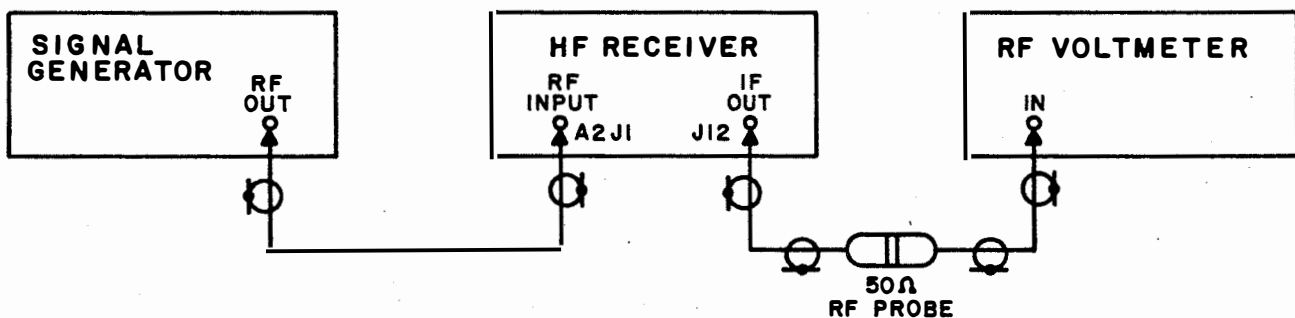

Figure 6-5. 455 kHz Amplifier, AM Detector Gain Adjustment, Test Setup
(2) Procedures.
- (b) Connect the test equipment as shown in figure 6-5.